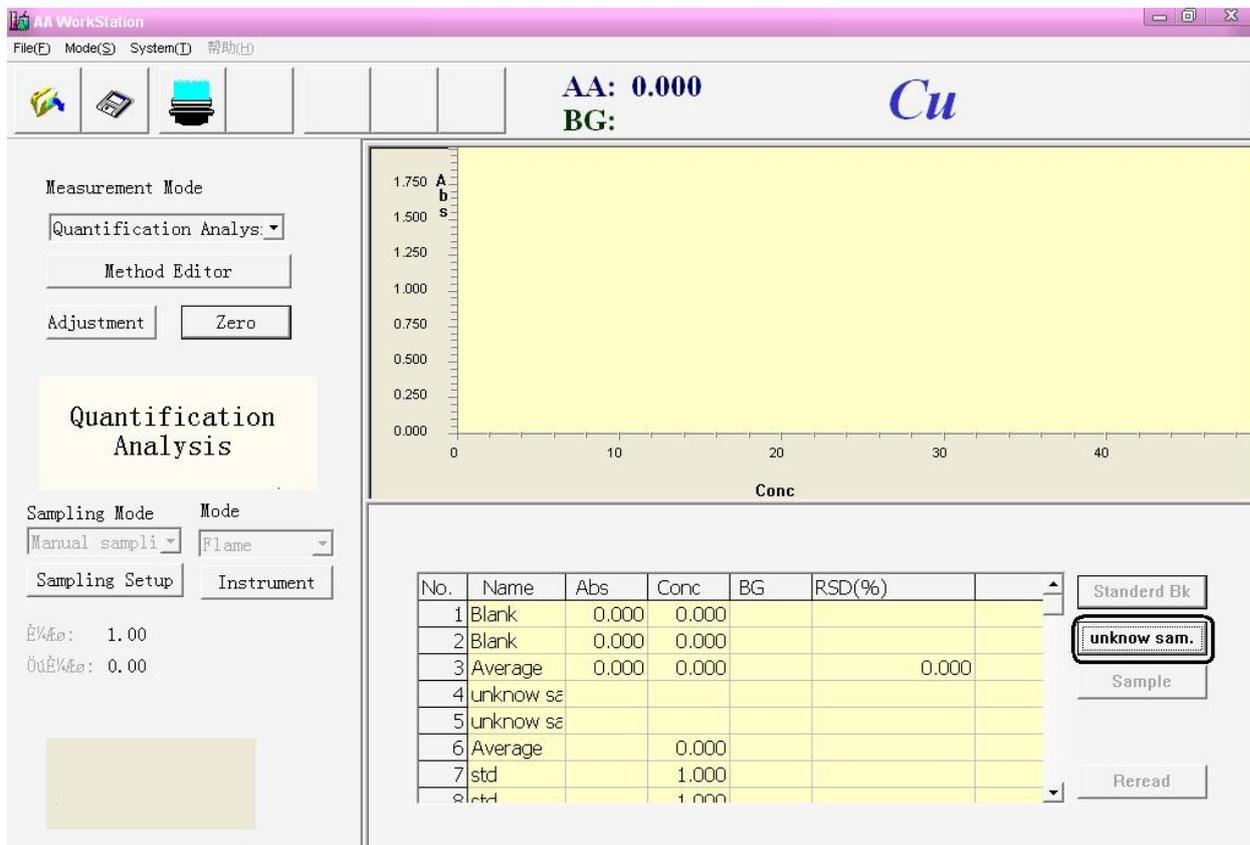

Figure 5-25
10. Spurt and absorb standard blank sample again,press **【Standard Bk】** button, shown in Figure 5-25